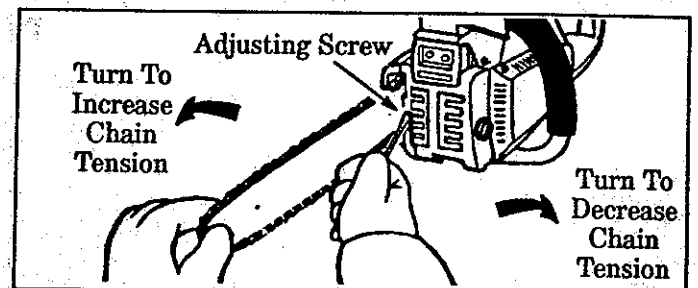

Figure 10
2. Turn the adjusting screw (Figure 10) counterclockwise to move the adjusting pin almost as far as it will go to the rear.
8. Turn the adjusting pin clockwise until the chain is snug in the guide bar groove. Figure 10.
1. Lift up the tip of the guide bar and turn the adjusting screw clockwise until the chain does not sag beneath the guide bar. Figure 10.